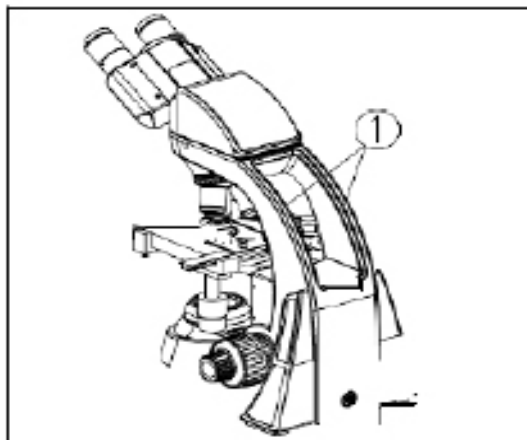

Fig. 1
3. When moving the microscope, use both hands to hold its arm (1), and place microscope on work surface carefully (see Fig. 1).